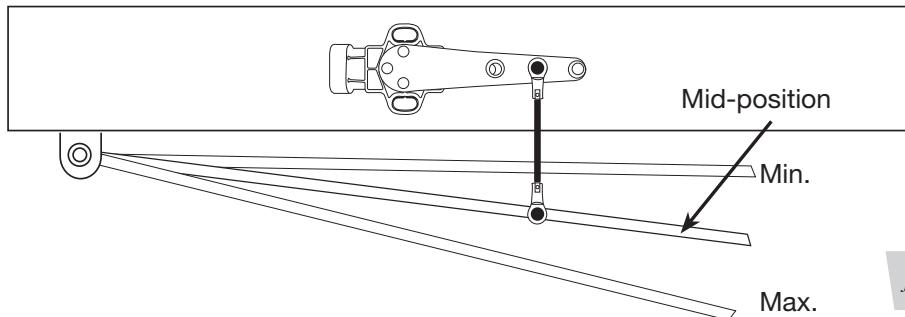

fig. 23
- Next put the suspension in the mid-position with respect to full suspension travel (fig. 23).